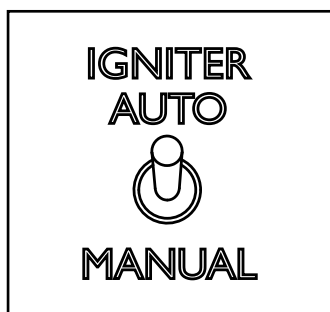
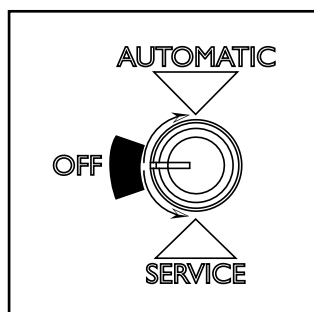

Figure 4.3
Figure 4.4
- 4. Flip toggle switch to desired mode "auto or manual". Figure 4.3. Set feed adjuster knob to desired setting and turn mode dial to "Automatic" or "Service" Figure 4.4. Feed rate of #4 is a good starting point. Adjustments may need to be made depending on fuel quality and/or heat output desired. **Note:** The igniter will not come on until the initial feed charge is complete.